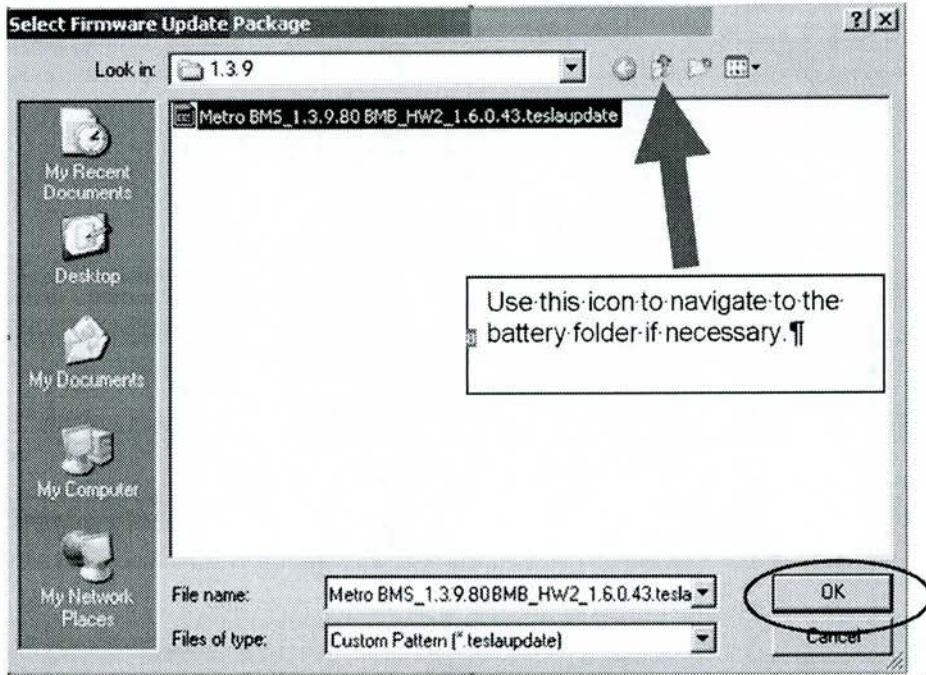

Figure 5
- Select the displayed file and with confirm with OK (circled, Figure 5).